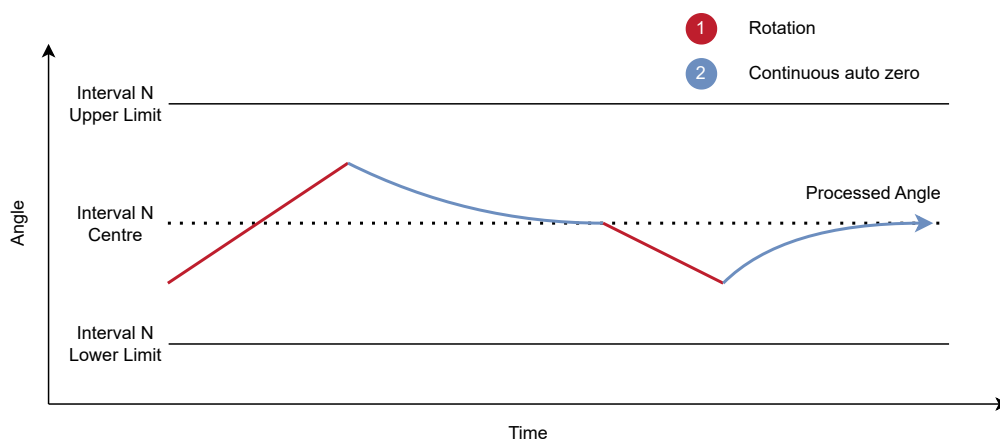

Figure 5.5: Continuous Auto-zero Behaviour
- > **Continuous:** The auto-zero filter will always be active and will cause the final angle to continuously move towards the center of the current interval. It is recommended to use a high *auto-zero beta* value to allow the final angle to move between intervals during slower rotations. This mode applies to devices without a mechanical ratchet, or with haptic ratchet effects. This behaviour can be viewed in Figure 5.5